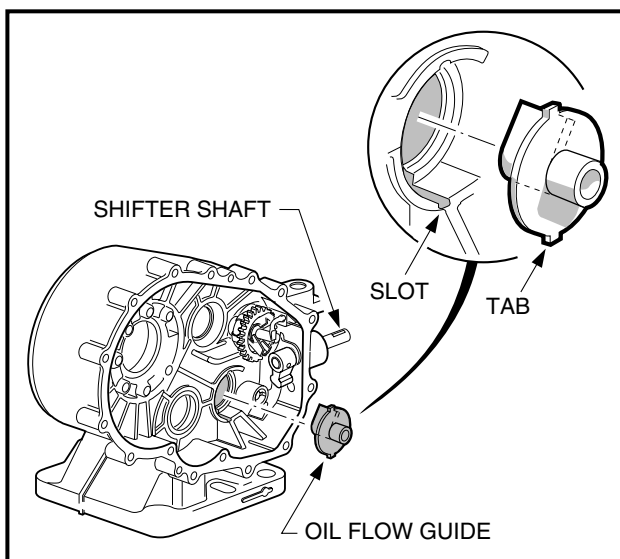

FIGURE 10-41
12. Remove the oil flow guide (**Figure 10-41, Page 50**) from the casing.
13. Remove the shifter shaft (**Figure 10-41, Page 50**) from the casing.